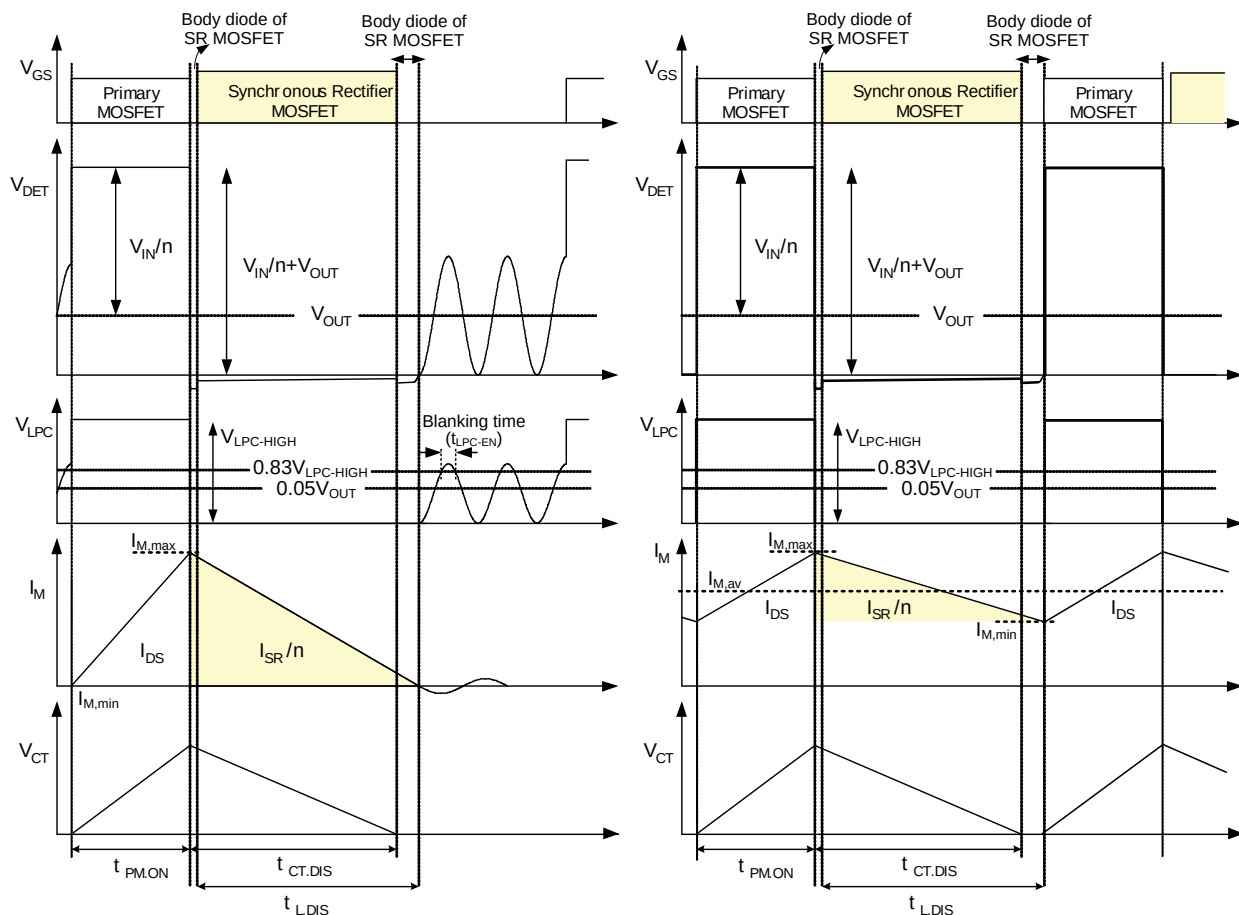
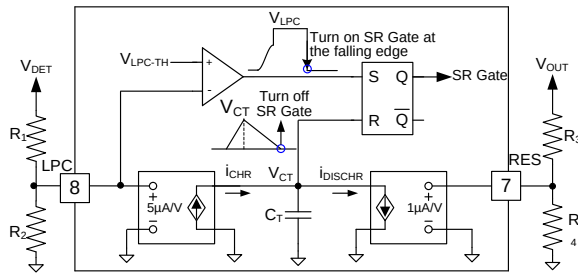

Figure 18. Typical Waveforms of Linear-Predict Timing Control in CCM and DCM/QR Flyback
Figure 19. Simplified Linear-Predict Block
The SR MOSFET turn-off timing is determined by linear-predict timing control and the operation principle is based on the volt-second balance theorem. The volt-second balance theorem states that the inductor average voltage is zero during a switching period in steady state, so the charge voltage and charge time product is equal to the discharge voltage and discharge time product. In flyback converters, the charge voltage on the magnetizing inductor is input voltage (V_{IN}), while the discharge voltage is nV_{OUT} , as the typical waveforms show in Figure 18. The following equation can be drawn:
FAN6204A uses the LPC and RES pins with two sets of voltage dividers to sense DET voltage (V_{DET}) and output voltage (V_{OUT}), respectively; so V_{IN}/n , $t_{PM,ON}$, and V_{OUT} can be obtained. As a result, $t_{L,DIS}$, which is the on-time of SR MOSFET, can be predicted by Equation (1). As shown in Figure 18, the SR MOSFET is turned on when the SR MOSFET body diode starts conducting and DET voltage drops to zero. The SR MOSFET is turned off by linear-predict timing control.
The linear-predict timing-control circuit generates a replica (V_{CT}) of magnetizing current of flyback transformer using internal timing capacitor (C_T), as shown in Figure 19. Using the internal capacitor voltage, the inductor discharge time ($t_{L,DIS}$) can be detected indirectly, as shown in Figure 18. When C_T is discharged to zero, the SR controller turns off the SR MOSFET.
Referring to Figure 18; when LPC voltage is higher than V_{LPC-EN} over a blanking time (t_{LPC-EN}) and lower than $V_{LPC-TH-HIGH}$ ($0.05 V_{OUT}$), then SR MOSFET can be triggered. Therefore, V_{LPC-EN} must be larger than $V_{LPC-TH-HIGH}$ or the SR MOSFET cannot be turned on. When designing the voltage divider of LPC, R_1 and R_2 should be considered as:
The typical waveforms of CCM operation in steady state are shown as Figure 18. When the primary-side MOSFET is turned on, the energy is stored in L_m . During the on-time of the primary-side MOSFET ($t_{PM,ON}$), the magnetizing current (I_m) increases linearly from $I_{M,min}$ to $I_{M,max}$. Meanwhile, internal timing capacitor (C_T) is charged by current source ($i_{CHR} - i_{DISCH}$) proportional to V_{IN} , so V_{CT} also increases linearly.
In DCM / QR operation, when primary-side MOSFET is turned off, the energy stored in L_m is fully released to the output at the turn-off timing of primary-side MOSFET. Therefore, the DET voltage continues resonating until the primary-side MOSFET is turned on, as depicted in Figure 18. While DET voltage is resonating, DET voltage and LPC voltage drop to zero by resonance, which can trigger the turn-on of the SR MOSFET. To prevent fault triggering of the SR MOSFET in DCM operation, blanking time is introduced to LPC voltage. The SR MOSFET is not turned on even when LPC voltage drops below $0.05 V_{OUT}$ unless LPC voltage stays above $0.83 V_{LPC-HIGH}$ longer than the blanking time (t_{LPC-EN}). The turn-on timing of the SR MOSFET is inhibited by gate inhibit time ($t_{INHIBIT}$), once the SR MOSFET turns off, to prevent fault triggering.